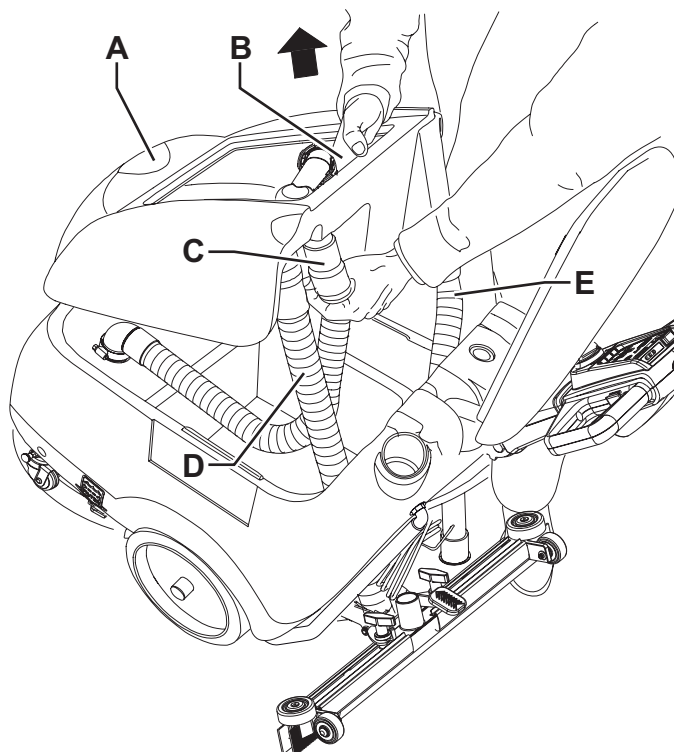

Figure 2
7. Disconnect the vacuum hose (22) from the squeegee (11).
8. Disconnect the recovery water drain hose (16) from the bracket (17).
9. Open the cover (6).
10. Grasp the recovery tank (A, Fig. 2) in the area (B) and slightly lift it.
11. Disconnect the vacuum hose (C) from the tank, then remove the tank (A) with the hoses (D) and (E).
12. Install the batteries on the machine according to the diagram (51).
13. Install the tank (A) by performing steps 7 to 11 in the reverse order.